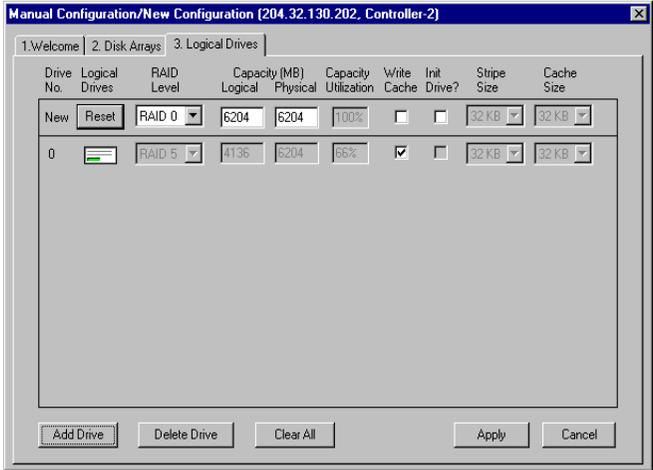

Figure 4-44. Manual Configuration - Logical Drives
5. Once you've assembled the disk array groups, click the Logical Drives tab to continue on to logical drive setup (Figure 4-44):